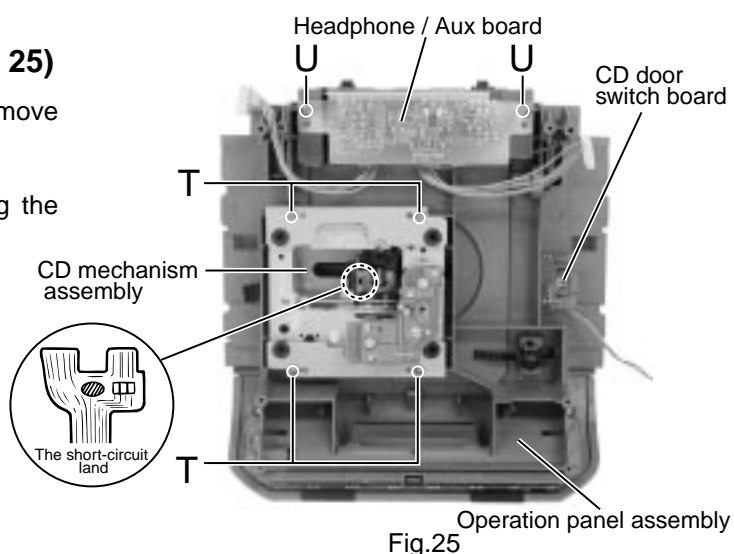

Fig.25
- Fig.25 shows more detail about the short-circuit land.
■ Removing the CD mechanism assembly (See Fig.25)
■ Removing the headphone / aux board (See Fig.25)